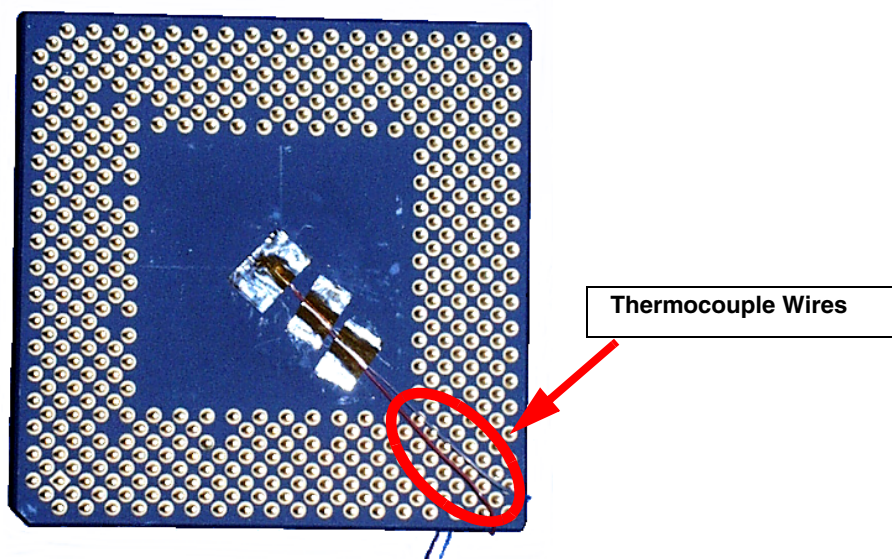

Figure 14. Alternate Thermocouple Placement
3. Place the thermocouple wires between the processor pins as shown in Figure 14 on page 25.
Figure 14 shows the alternate placement of thermocouple wires between processor pins.